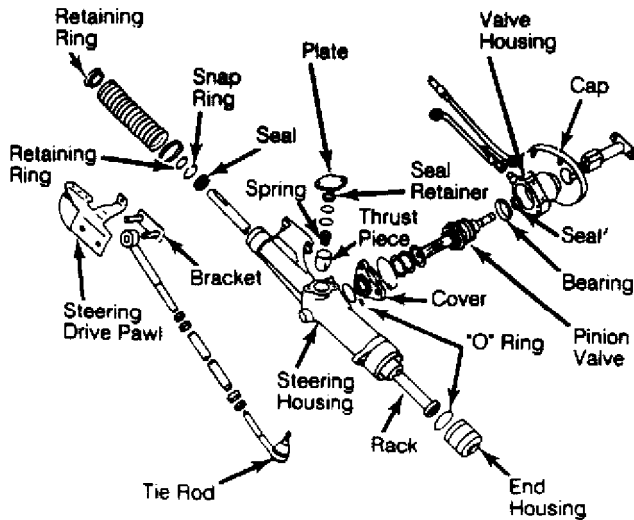

Fig. 1: Exploded View of Typical Power Steering Gear
1) Before disassembling steering gear, check output and system pressure. When overhauling steering gear, always use all parts in Repair Kit (811 498 020). Always use new self-locking nuts and "O" rings. Use exploded view of steering gear to assist in overhaul. See Fig. 1.